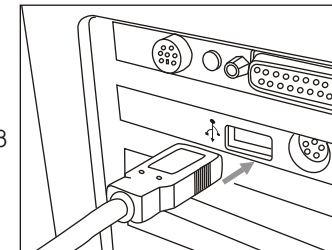

Figure 8
- 5). Insert other end of the connecting cable into free interface port of on the computer back, as shown in figure 8: